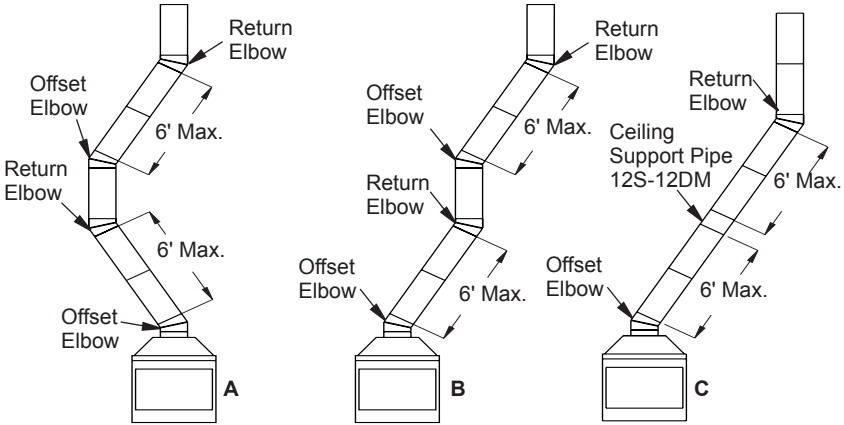

Figure 9 - Typical Offset Terminations
- Maximum length of pipe between supports (return elbow or 12S-12DM) is 6' of angle run. Maximum of two 6' angle run sections per chimney system (see Figure 9, page 10).